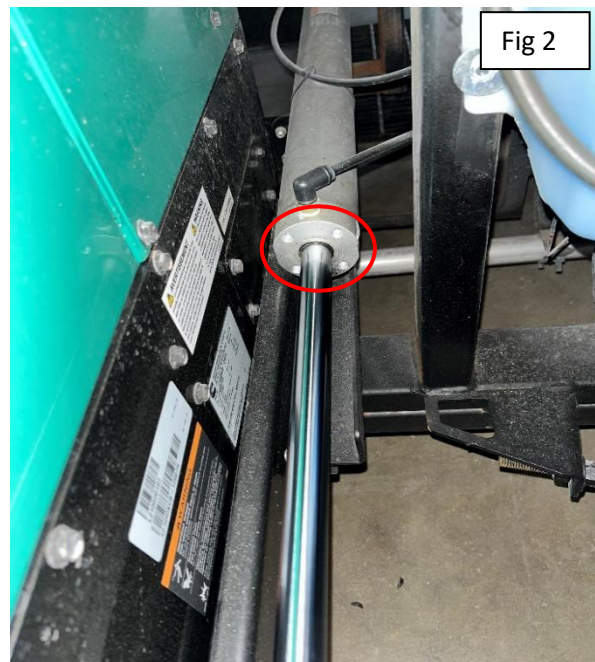

Fig 2
3. Locate and leak test the air cylinder ram shaft at the gasket. Any rough debris adhered to the shaft may have damaged the air seal in the cylinder. (Figure 2)